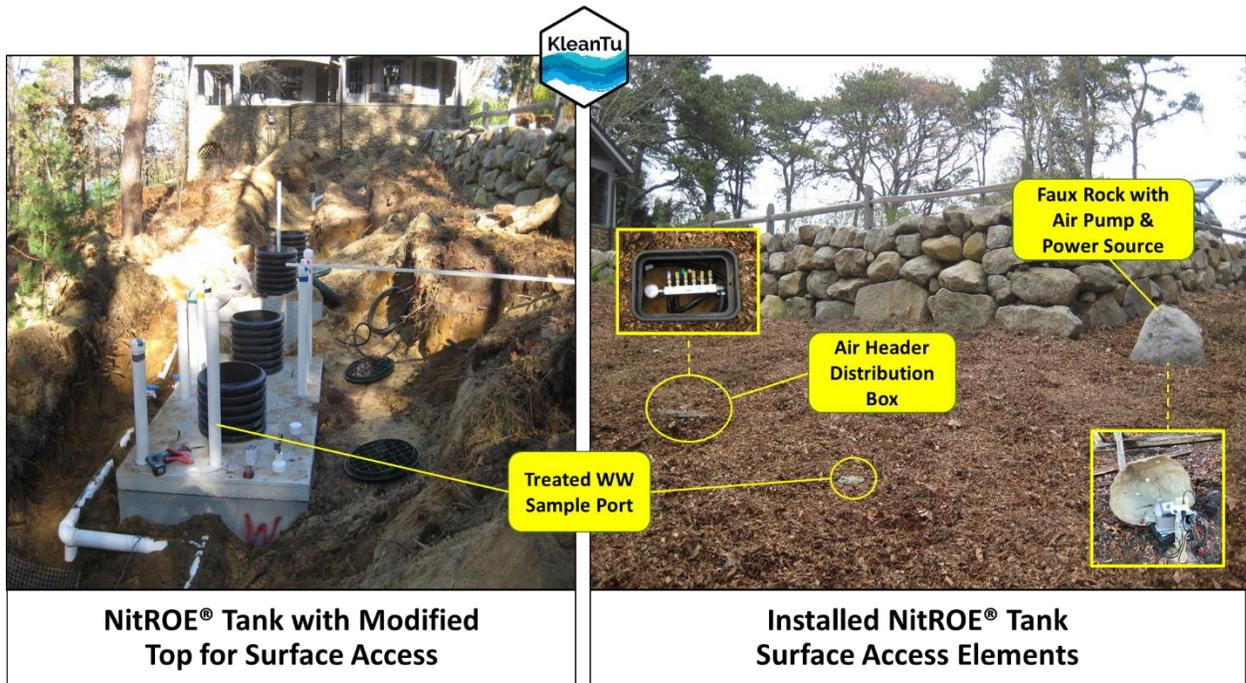

Figure 2. Installed NitROE® WWTS Tank Showing Orientation and Operational Elements
Figure 2 provides photos of an installed NitROE® WWTS tank identifying the major design and operational elements.
- The external air pump, which supplies oxygen to the aeration chamber, requires a dedicated 115V/20-amp outlet and is installed in compliance with the appropriate local codes. The air pump is placed in a surface housing and connected to the aeration apparatus via a valve arrangement. Typically, the housing is a faux rock, as shown in Figure 2, but can also be a custom-made enclosure. The small size of the air pump and its enclosure results in a relatively quiet operation.